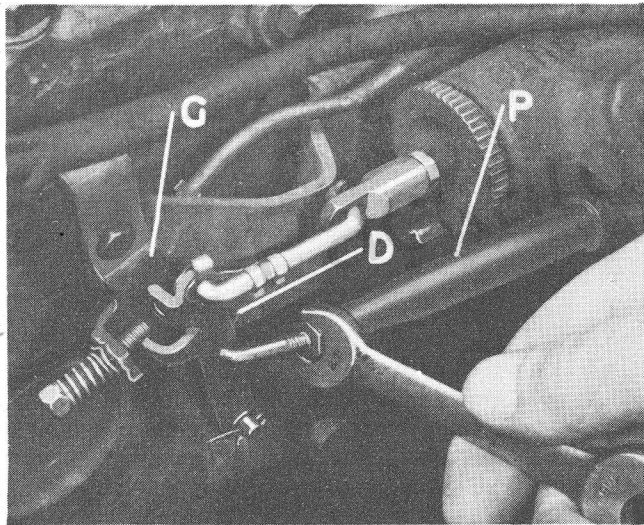

Figure 8—Adjusting Turnbuckle for $\frac{1}{32}$ " to $\frac{1}{16}$ " Clearance between Cross Shaft Lever and Stop
b. Adjust foot accelerator to Electromatic clutch valve operating lever rod by means of turnbuckle (P, Fig. 8) until, with the lever (G, Fig. 8) against its stop pin (D), there is $\frac{1}{32}$ inch to $\frac{1}{16}$ inch clearance between the throttle cross shaft lever and its stop.
c. Adjust carburetor to cross shaft link so that carburetor throttle stop screw is against the stop while lever (G) is against its stop. When making this adjustment the carburetor idle screw must not be on the fast idle cam.